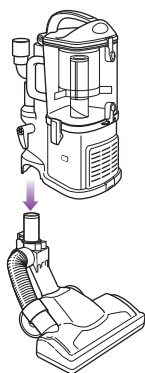

Fig. 8
- 2 Align the tube of the floor nozzle with the tube on the detachable canister and lower until you hear the two pieces click into place. (Fig. 8)